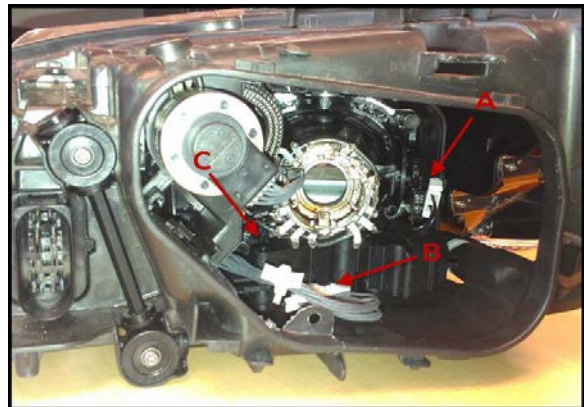

Figure 1. Back of a tri-xenon headlamp showing three connectors (A, B, and C). A bi-xenon headlamp will only have a single connector (A).
3. Remove the covers from the back of the headlamp housing. Check all of the connectors inside of the headlamp housing (Figure 1) for proper seating and inspect the locks to ensure that they are fully engaged: